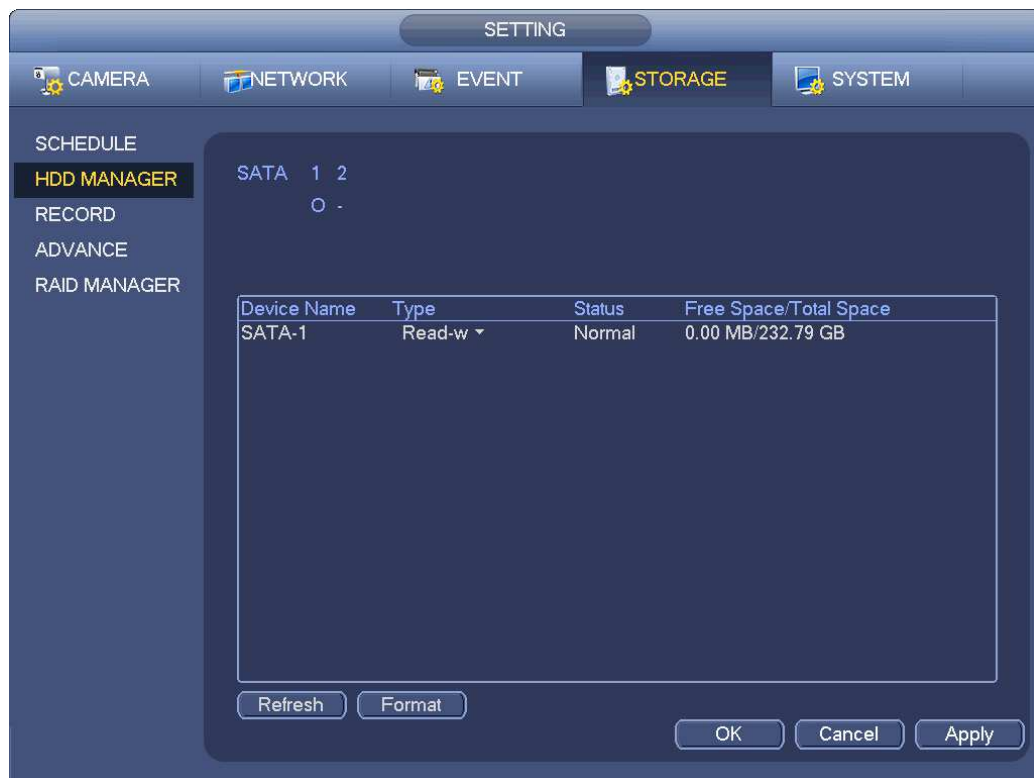

Figure 4-129
- From Mani-menu->Setting->Storage->HDD Manager, you can go to HDD management interface. See Figure 4-129.